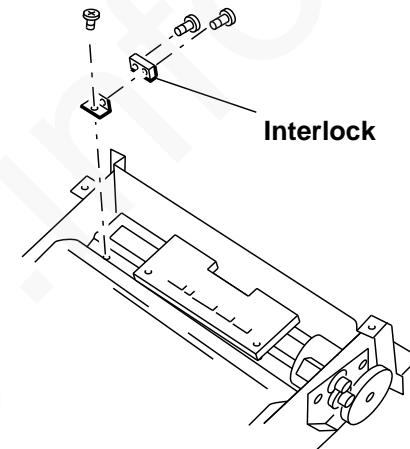

Figure 1. Printer interlock
7. Remove the screw (Figure 1) retaining the printer cover interlock bracket.
8. Remove two screws (Figure 1) retaining the interlock to the bracket .